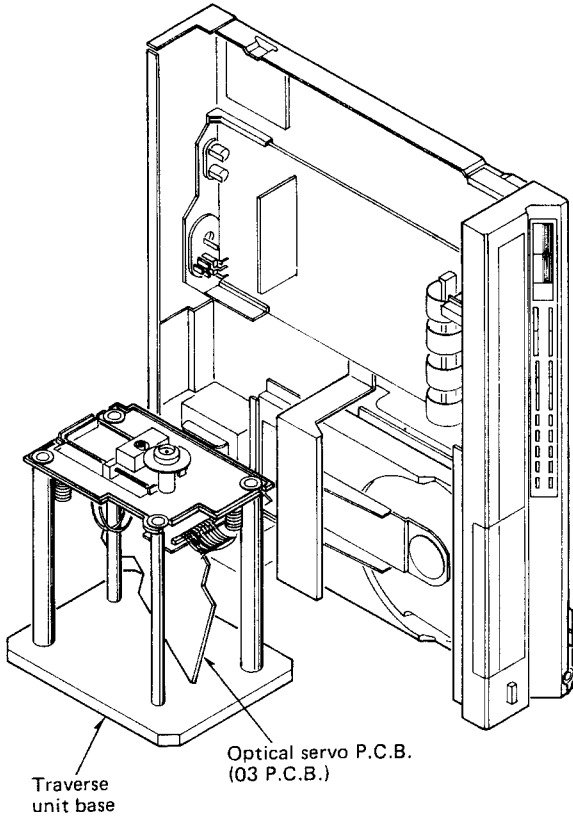

Fig. 31
- 10. Shift it as in Fig. 31 check.